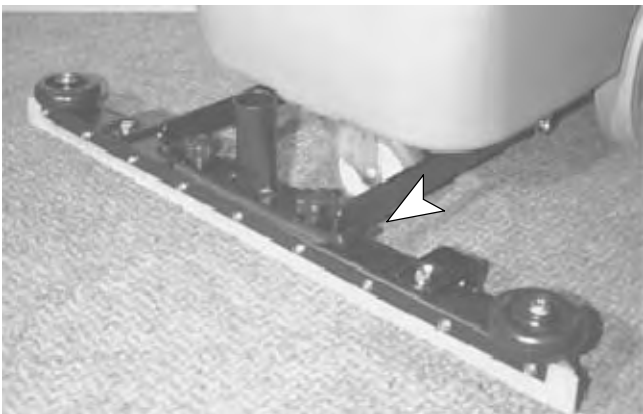

FIG. 5
10. Attach squeegee assembly to bracket. Use (2) thumb screws to secure (Figure 5).